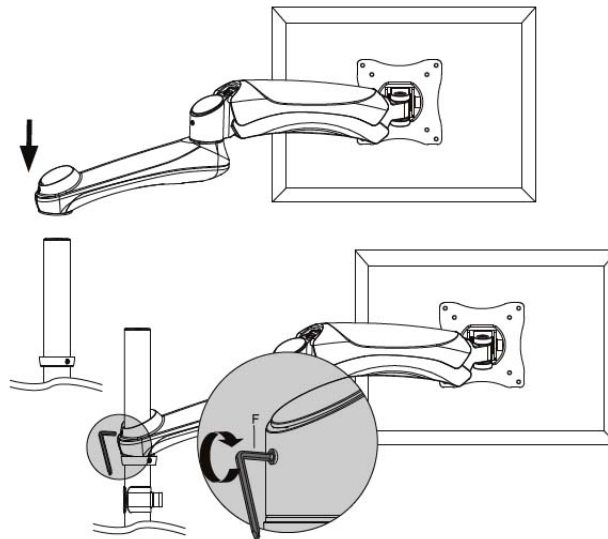

Figure 9
3. Slide the Extension Arm over the Tube Support until it rests on the Position Ring, then tighten the Hex Nut finger tight using a 3mm Allen Key, see Figure 9.